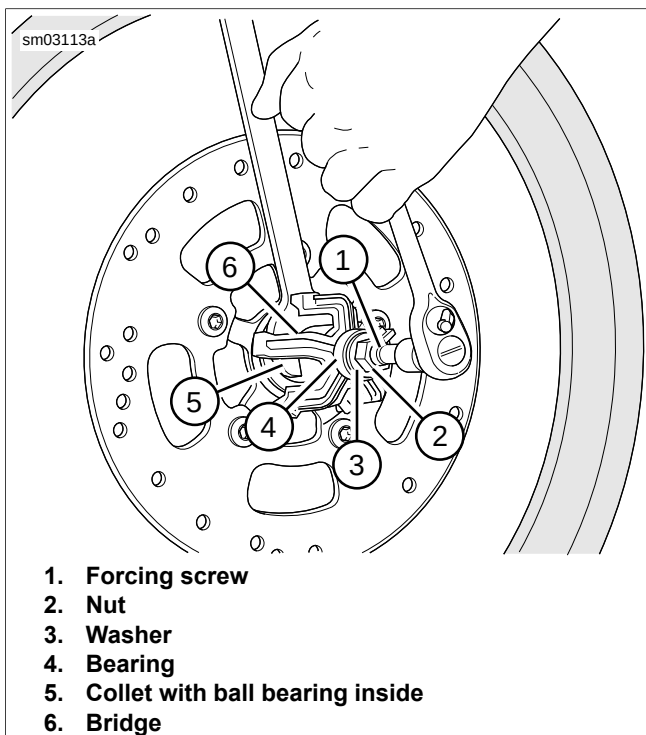
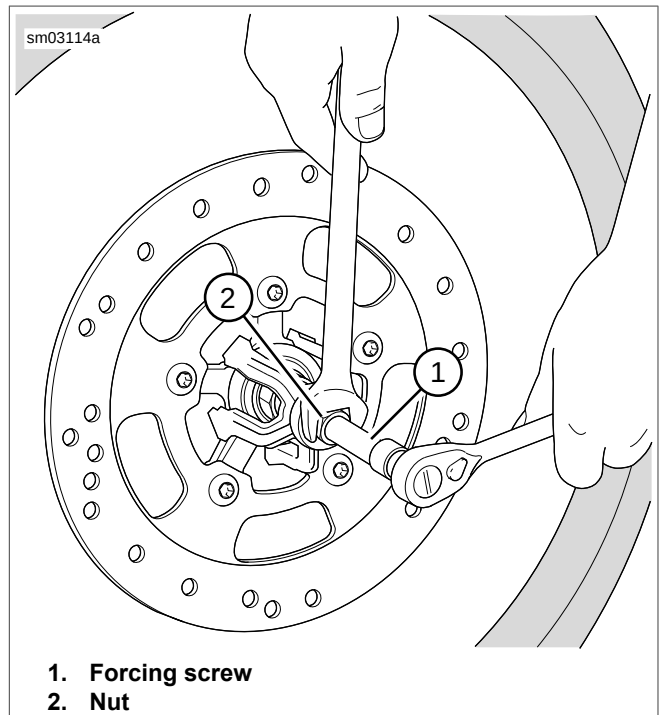

Figure 2-68. Gripping Bearing
Figure 2-69. Removing Bearing
2. See Figure 2-68. Obtain WHEEL BEARING INSTALLER/REMOVER (Part No. HD-44060C) and assemble tools required for bearing removal.
- a. Sparingly apply graphite lubricant to threads of forcing screw (1) to prolong service life and enable smooth operation.
- b. Install nut (2), washer (3) and bearing (4) on screw. Insert assembly through hole in bridge (6).
- c. Drop ball bearing inside collet (5). Fasten collet and ball bearing to forcing screw (1).
3. Hold end of forcing screw (1) and turn collet (5) to expand edges of collet.
4. See Figure 2-69. When expanded collet has gripped bearing edges, hold end of forcing screw (1) and turn nut (2) to remove bearing from wheel.